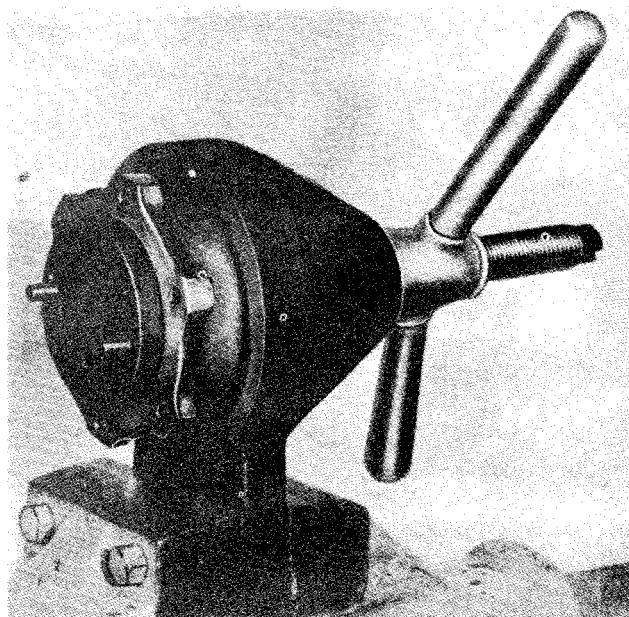
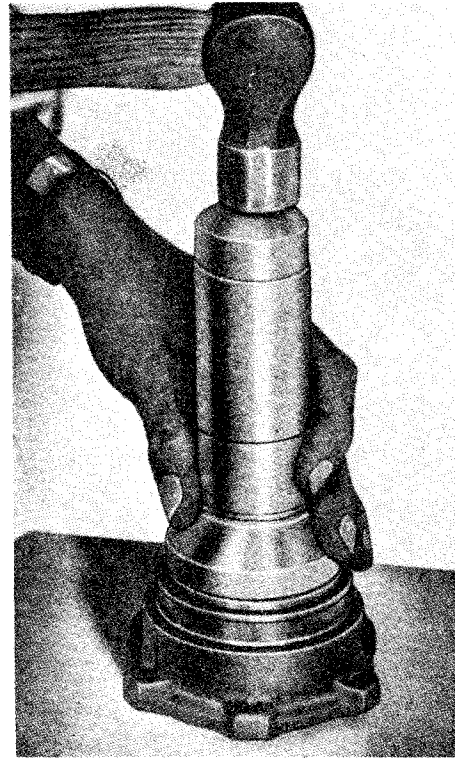

Fig. 4 Extracting outer ring of hub bearing from housing.
Fig. 7 Fitting oil seal into bearing housing.
- (iv) Extract the bearing outer ring from the housing, as shown in Fig. 4, after first tapping out the oil seal which should be renewed during re-assembly.
- (ii) Draw the bearing outer ring into the housing by using the same tool as shown in Fig. 4, and install a new oil seal (Fig. 7).